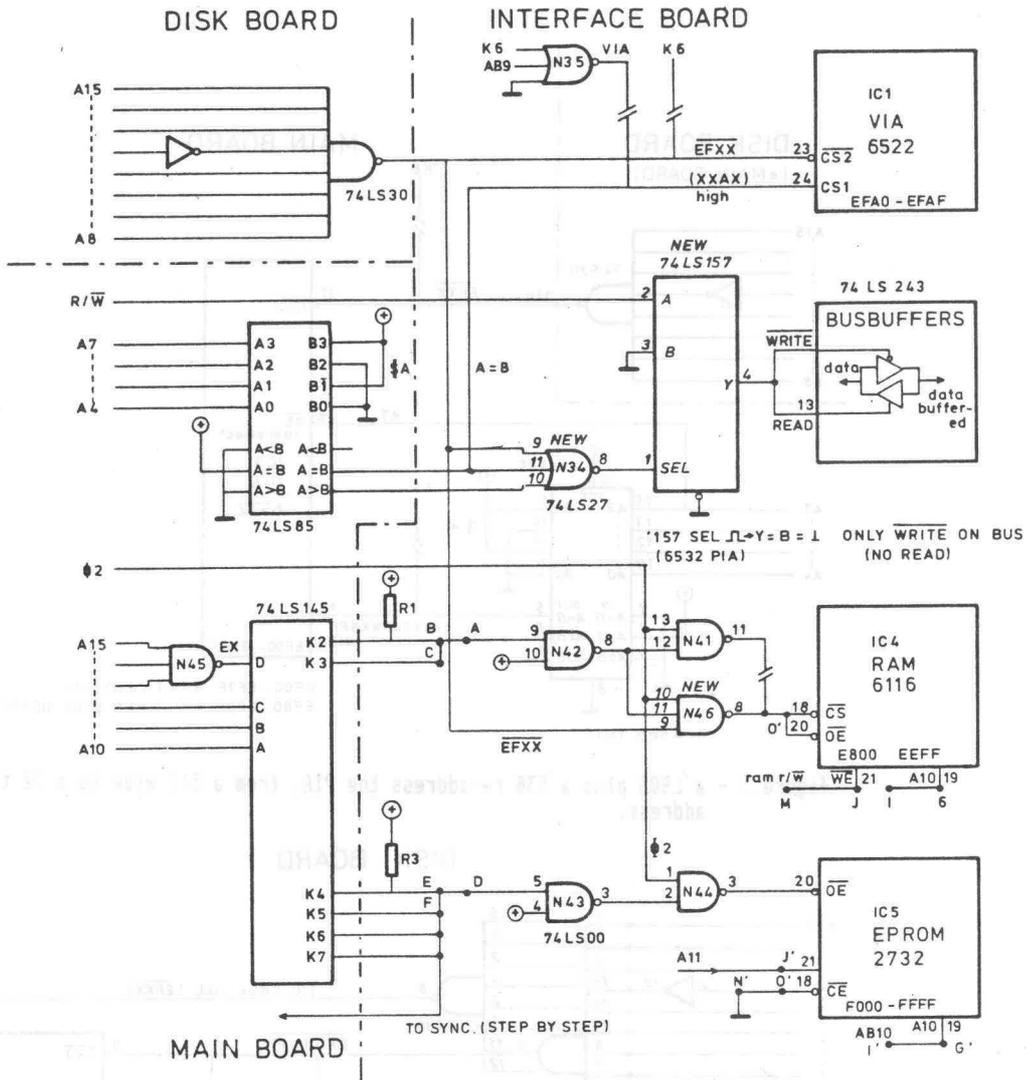

figure.5 - some new gates on the disk board, to re-address the floppy addresses into the I/O page.
C - DISK BOARD - fig.5; (ref.4, fig.9)
Some ICs must be added to this card if the complete address decoding is desired. Six addresses are needed. A 13-input nand gate ('S133) will decode up to 8 addresses, and the so obtained \$EFC0-EFC7 line is directed to CS2 of either the 6850 ACIA and 6821 PIA. Then the ACIA's CS1 is linked with A2 and CS0 with A1, so it lies at \$EFC4-EFC5, where A2 is high and A1 is low. The CS1 of the 6821 links to A2, CS0 with \oplus and RS1 and RS0 with A1 and A0 as before; this chip will be active on \$EFC0,1,2,3. A drawback of this arrangement is that the data buffers of the board (IC13, 'LS245) must be active on the 2+4 addresses. I ought to do that with two new gates, a 3-input-and, plus a 2-input-or, as drew in figure 5. Summing it all, it is a '133, a '240 (six inverters), a '11, a '32 and a '30 if this last gate was not put on the main board.